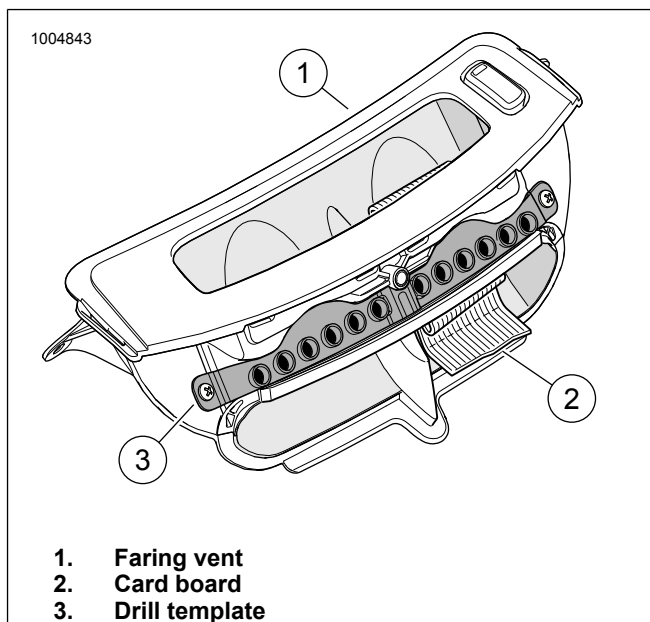

Figure 4. Drill Template and Vent
See Figure 4. Position drill template (3) on fairing vent (1). Drill two pilot holes using a 7/64-in. drill bit. The pilot holes are drilled for the two #4 x 3/8 in. truss head screws use in retaining the drill template to the fairing.
4. See Figure 4. Using folded over cardboard (2) or thin wood block, insert item into vent intake as a drill stop. This is done to prevent the drill bit from punching through the plastic and damaging the opposite side of the fairing vent.